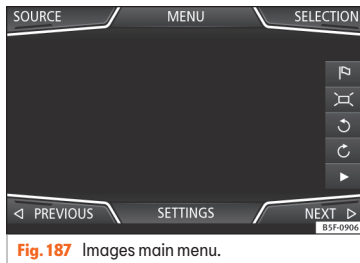

Fig. 187 Images main menu.
- Press the **SOURCE** »» **Fig. 187** function button and select the data storage device where the images are stored.